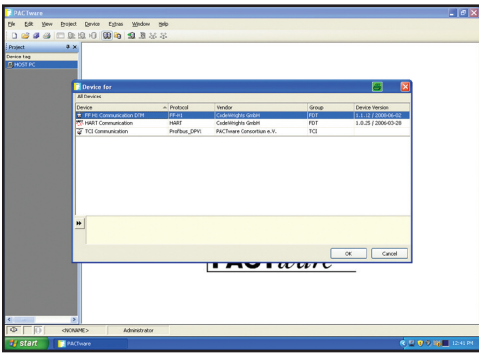

Figure 3
6. Choose the FF H1 Communication DTM from the Communication DTM list, then click OK (See Figure 3).